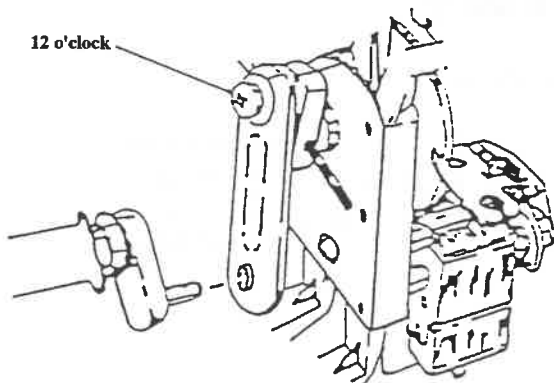

Fig. 10
1. Make sure the hole through the rear shaft is in a horizontal plane. (If a pin were inserted in the hole, the pin would be horizontal). See Fig 10.
2. Slide the Drive Arm (with linkage attached) on the rear shaft as shown. See Fig. 10.
NOTE: When the screw holding the Linkage Arm to the Drive Arm is at the 12 o'clock position (See Fig. 10), the Lock Tab will be at the 6 o'clock position (See Fig. 11).